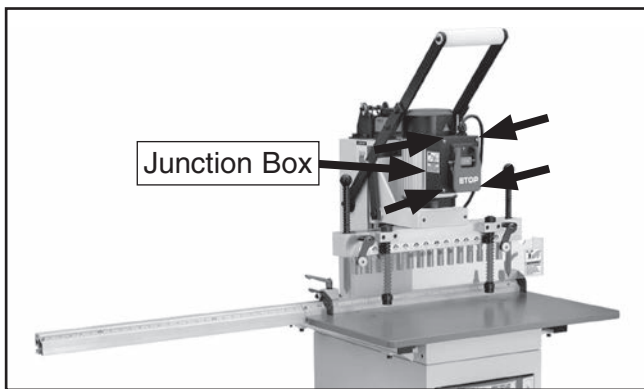

Figure 5. Motor junction box and screw locations.
3. Open the motor junction box (see **Figure 5**) by removing the four screws from the front.